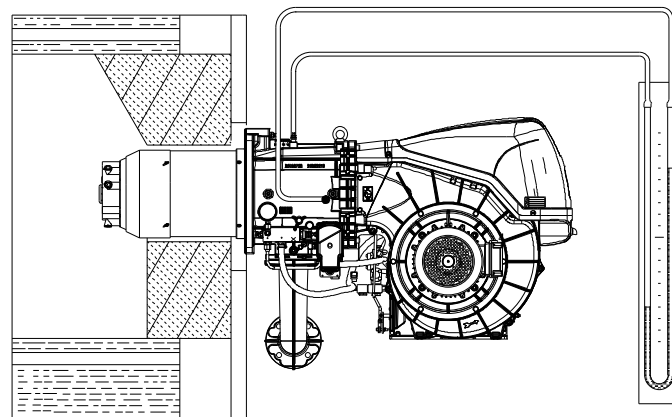

Fig. 30
- Fit a U-type pressure gauge or a differential pressure gauge (Fig. 30), with socket (+) on the gas pressure of the pipe coupling and (-) in the combustion chamber.
The arrival of gas at the pipe coupling is indicated by the U-type pressure gauge (Fig. 30).
A rough indication can be obtained from Tab. L on page 25, just read the gas pressure on the "U" pressure gauge (see Fig. 30 on page 31) and follow the indications.